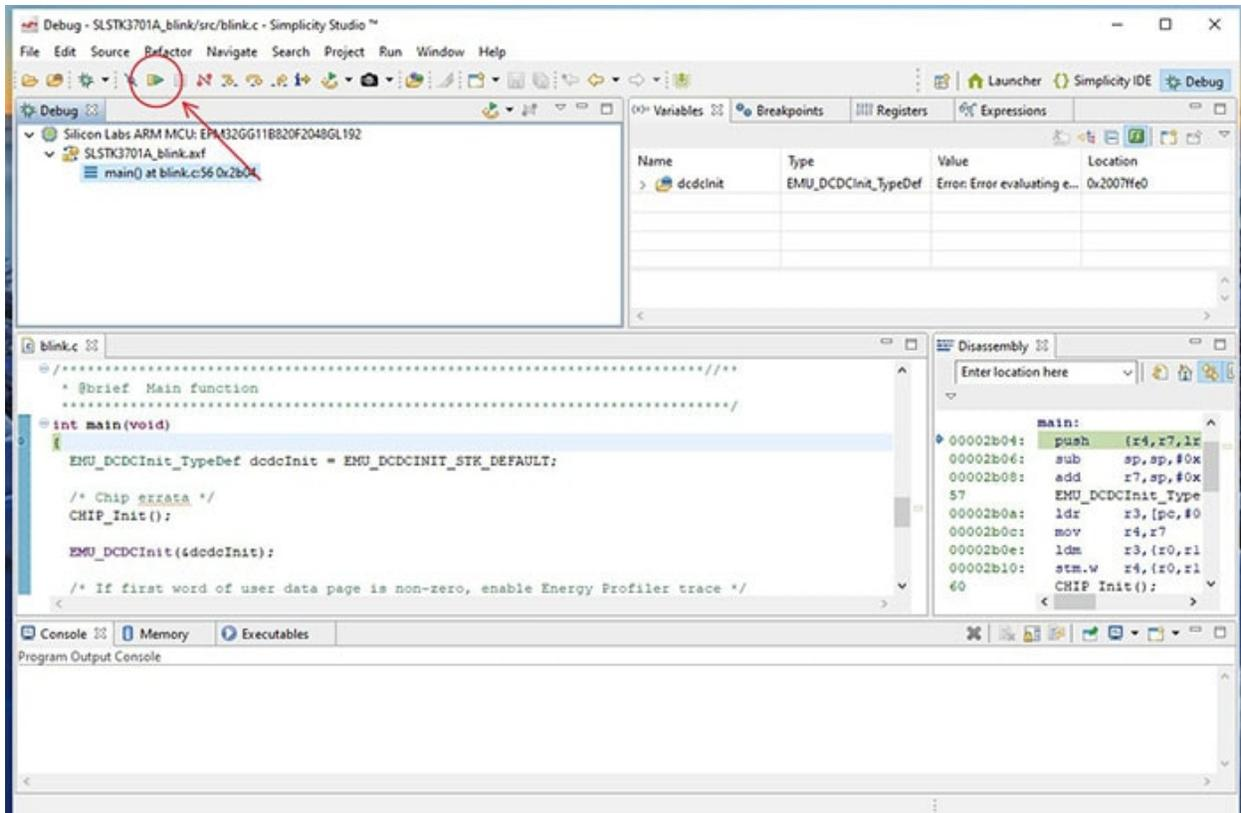

Figure 9: Run the project. (Source: Simplicity Studio)
15. Run the project once the debugger is launched by clicking on the “run icon”. Breakpoints can be set, single-stepping is enabled, etc. (Figure 9).